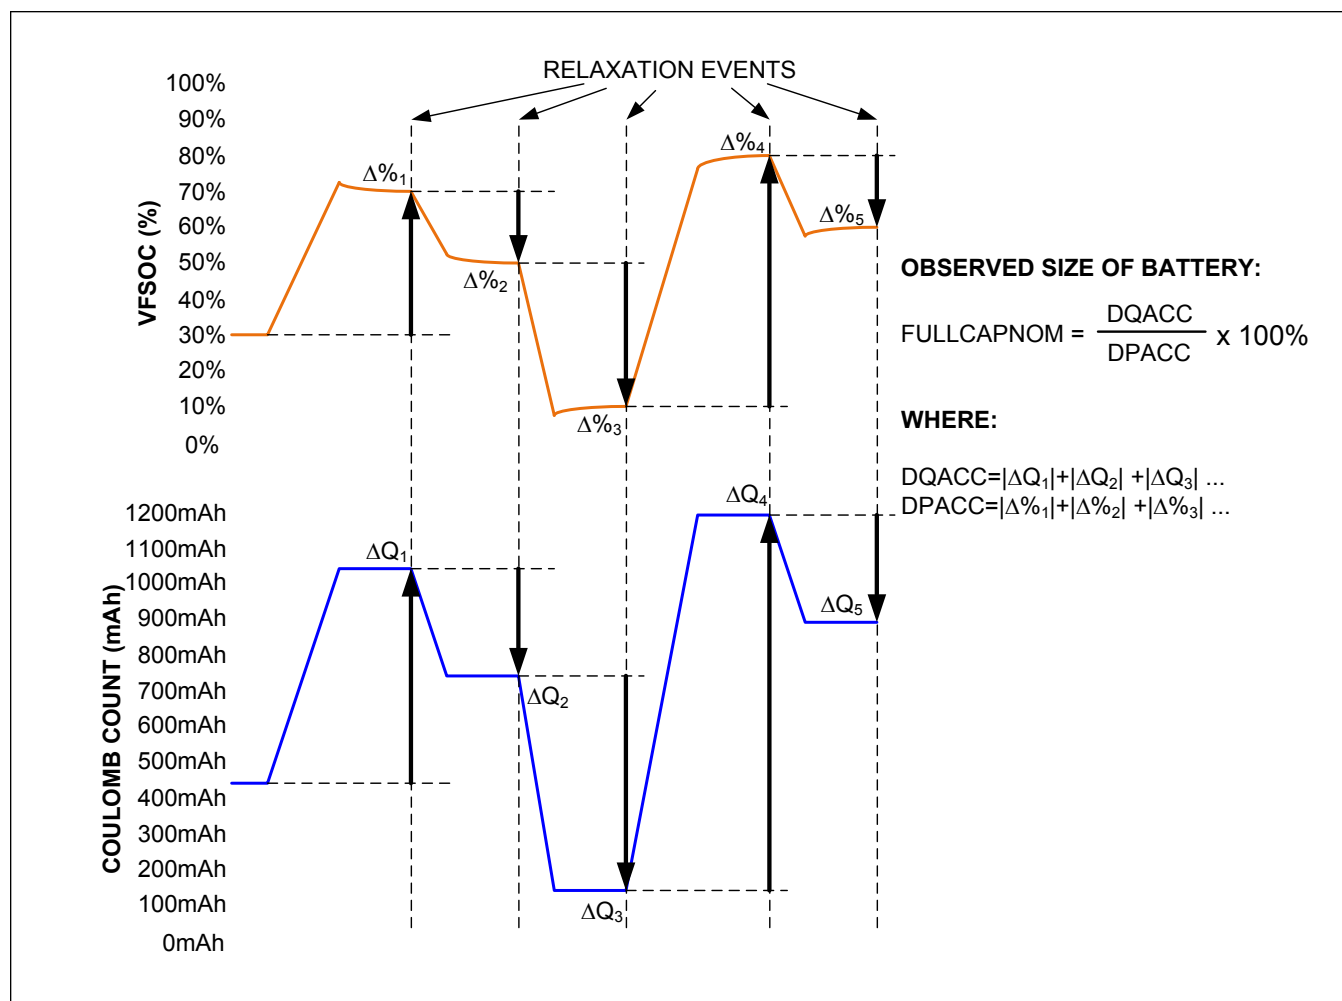

Figure 18. FullCapNom Learning
- **Cell Capacity (FullCapNom Register).** This is the total cell capacity at full, according to the voltage fuel gauge. This includes some capacity that is not available to the application at high loads and/or low temperatures. The IC periodically compares percent change based on an open circuit voltage measurement vs. coulomb-count change as the cell charges and discharges, maintaining an accurate estimation of the pack capacity in mAh as the pack ages. See Figure 18.